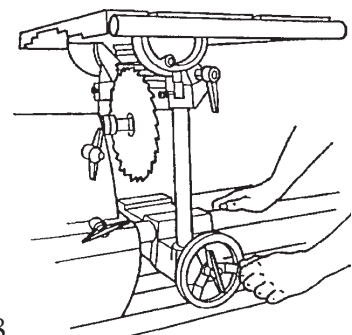

Figure C-28
21. Loosen the carriage lock and slide the carriage so the saw blade is directly beneath the slot in the table insert. See Figure C-28.